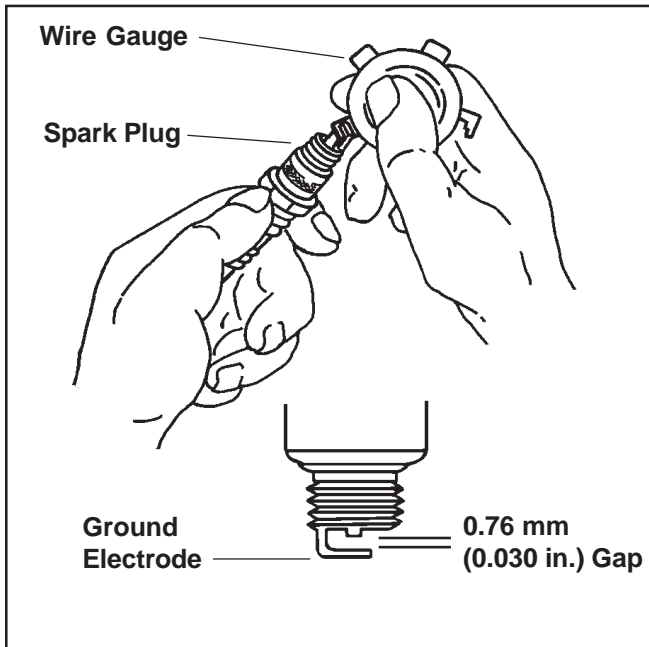

Figure 11. Servicing Spark Plug.
3. Check the gap using a wire feeler gauge. Adjust the gap to **0.76 mm (0.030 in.)** by carefully bending the ground electrode. See Figure 11.